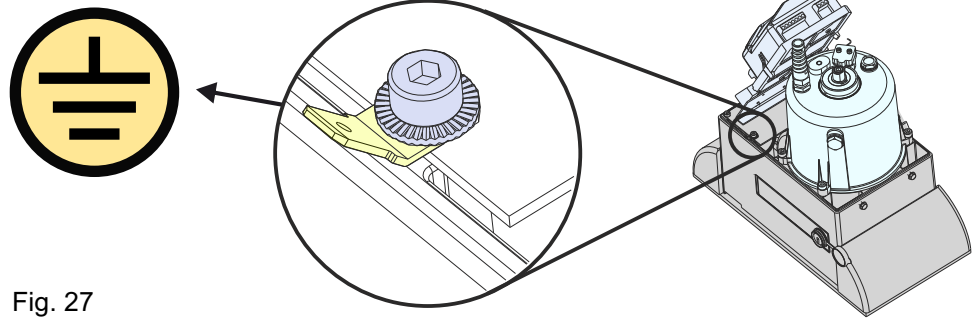

Fig. 27
**8.1.** Before connecting the operator to the power supply, provide for its earthing, by the use of the special earthing screw as shown in Fig. 27